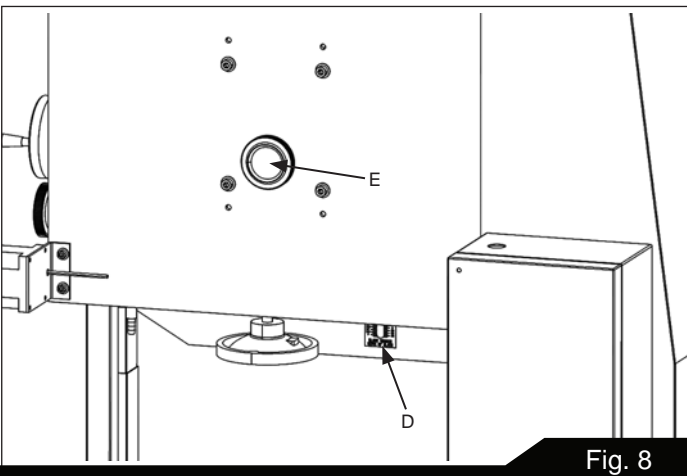

Fig. 8
4. Use blade tension indicator (D, Figure 8) as reference only. Blade should be tensioned using the finger pressure method.
1. Turn blade tracking knob (E, Figure 8) clockwise to track blade toward front of blade wheel.